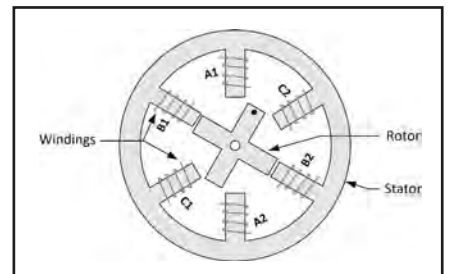

Fig.8.4. Simplified arrangement of a variable reluctance stepper motor
Fig.8.4 shows the simplified arrangement of a variable reluctance stepper motor that has just six stator teeth (three pairs of poles when energised) and four rotor teeth. This motor is capable of producing a basic step angle of 30°. When two opposite stator coils (eg, A1 and A2, B1 and B2 or C1 and C2) are energised, the rotor teeth will move in order to align with the energised stator poles (minimising the reluctance along the path of the applied magnetic field). By energising the windings in a particular sequence, the stator field can be made to change so that the rotor will move to a new position following each change. Note that, unlike permanent magnet stepper motors, variable reluctance types have no residual torque to hold the rotor at a fixed position when no current is applied.
Table 8.1 Energising sequence for one revolution of the motor in Fig.8.4 in an anti-clockwise (ACW) direction
Table 8.2 Energising sequence for one revolution of the motor in Fig.8.4 in a clockwise (CW) direction